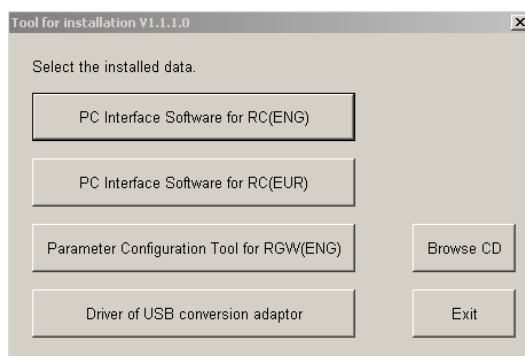

Fig. 1.14 Installed Data Selection Window
- [2] The installed data selection window (Fig. 1.14) will be displayed.
- [6] Once the complete window (Fig. 1.18) has been displayed, click **OK**. The complete window (Fig. 1.18) will disappear. Then, click **Cancel** on the window to specify the folder of the copy destination (Fig. 1.15). The window to specify the folder of the copy destination (Fig. 1.15) will disappear. Finally, click **Exit** on the data selection window (Fig. 1.14). The data selection window (Fig. 1.14) will disappear.